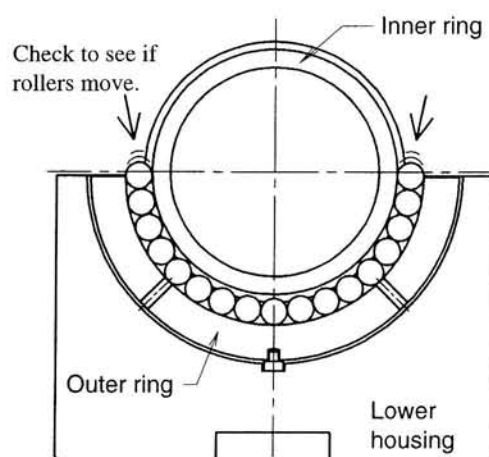

Fig. 19 Roller Movement Check
- 2) After rollers have been inserted for the lower half of the bearing, press the rollers on both ends to make sure that the rollers move lightly (see Fig. 19).